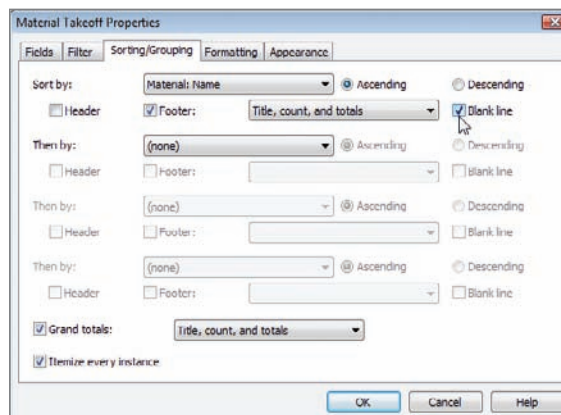

FIGURE 11.28 Configuring the parameters for the schedule
8. Choose Title, Count, And Totals from the menu, as shown in Figure 11.28.
12. Select the option Itemize Every Instance (see Figure 11.28).